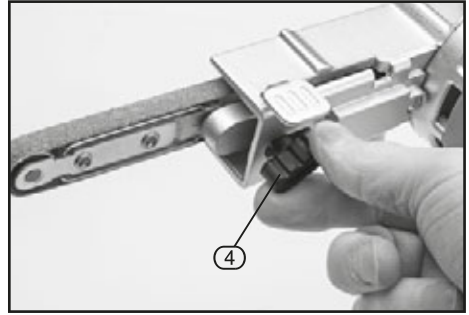

FIG.4
8.3 SANDING BELT TRACKING AND ADJUSTMENT – FIG. 4
- The new belt will have a tendency to track more to one side. To centre the belt on the rollers and over the sanding base, rotate belt tracking control knob (4). This pivots the front roller slightly causing the belt to track across the roller. Only slight adjustments are needed.